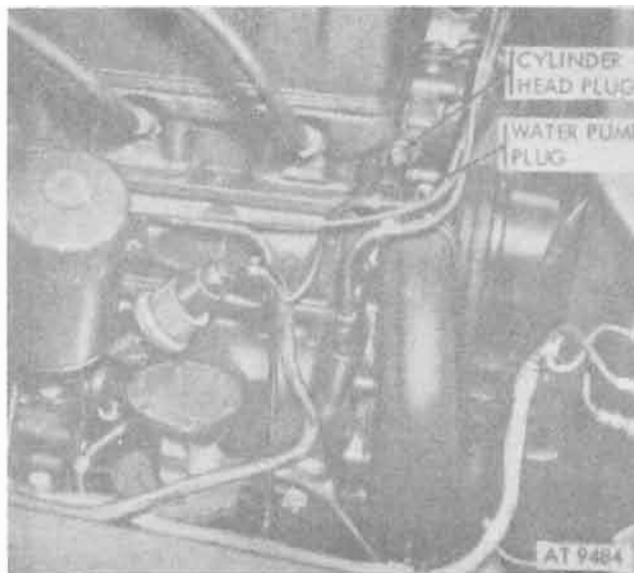

Figure 18-62. Water pump and cylinder head plugs.
- b. Remove and discard pipe plugs from water pump and cylinder head (fig. 18-62).